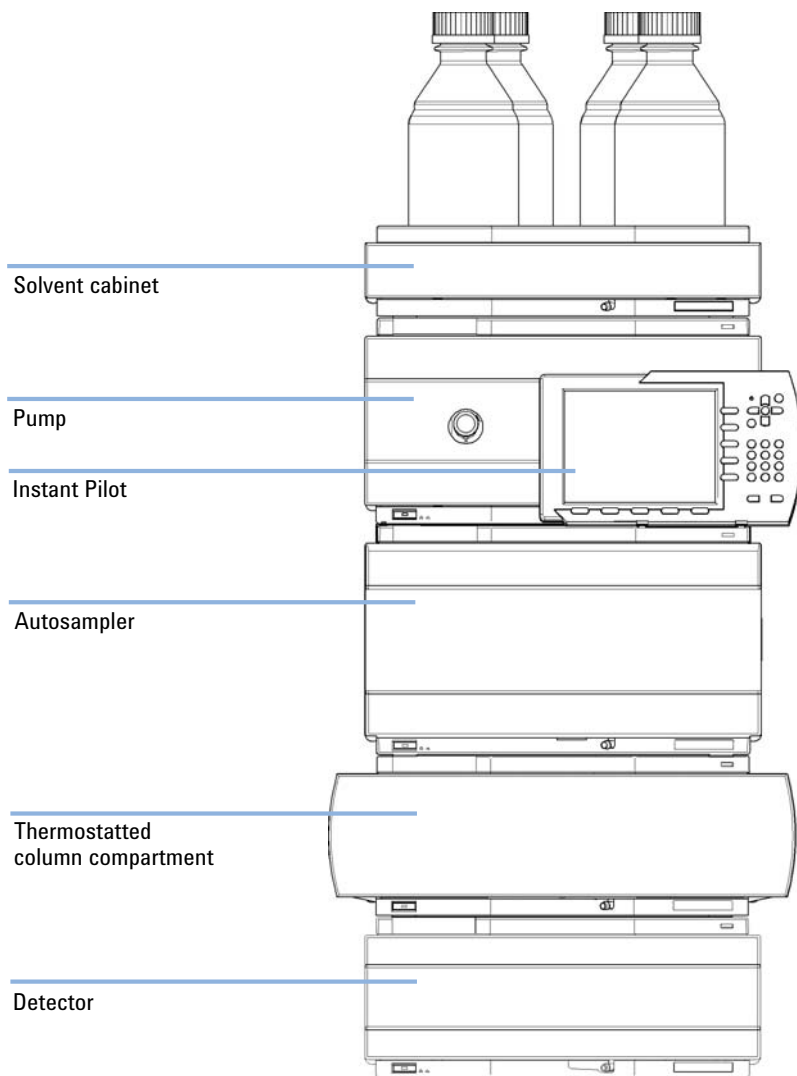
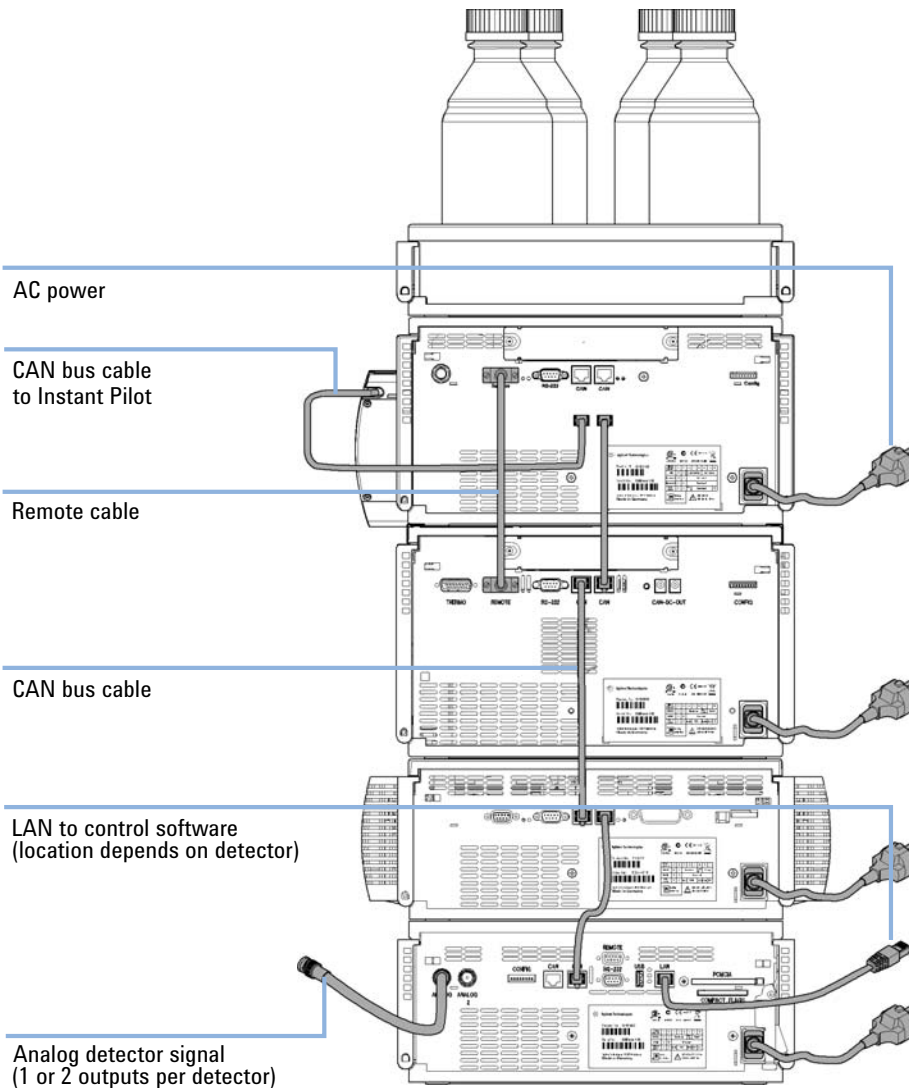

Figure 4 Recommended Stack Configuration for 1260 Infinity (Front View)
Figure 5 Recommended Stack Configuration for 1260 Infinity (Rear View)
Ensure optimum performance by installing the modules of the Agilent 1260 Infinity LC System in the following configuration (see Figure 4 on page 32 and Figure 5 on page 33). This configuration optimizes the flow path for minimum delay volume and minimizes the bench space required.
- 1 Place the individual modules in a stack configuration as shown in Figure 4 on page 32.
- 4 Connect the CAN cable to the CAN connector of the next module, see Figure 5 on page 33.